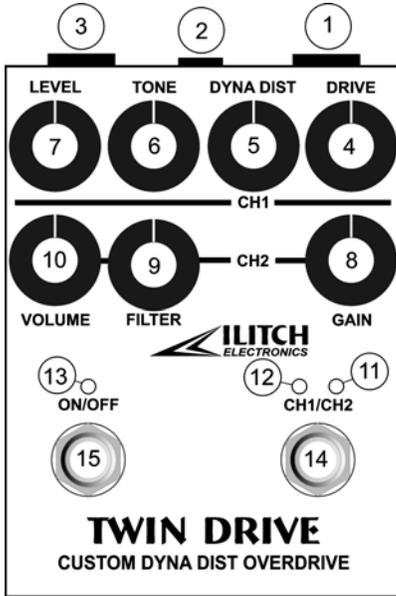

Fig. 1
**CONNECTORS and CONTROLS (Fig 1):**